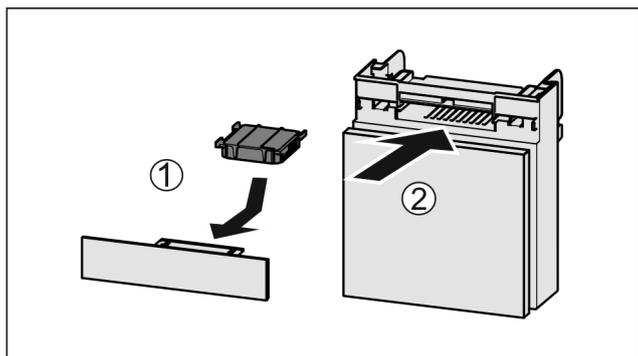

Fig. 53
- ▶ Insert the carbon filter as shown in the diagram *Fig. 53 (1)*.
- ▶ Push the compartment in *Fig. 53 (2)*.